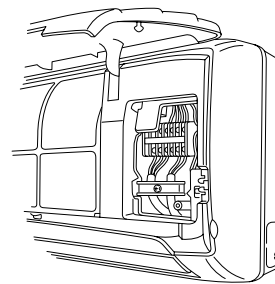

Fig. 21b
- (4) Route the inter-unit wiring from the back of the indoor unit and pull it toward the front for connection. (Fig. 21b)
- (5) Connect the inter-unit wiring to the corresponding terminals on the terminal plate (Fig. 21b) while referring to the wiring diagram.
- (6) Be sure to secure the wiring with the provided clamp.